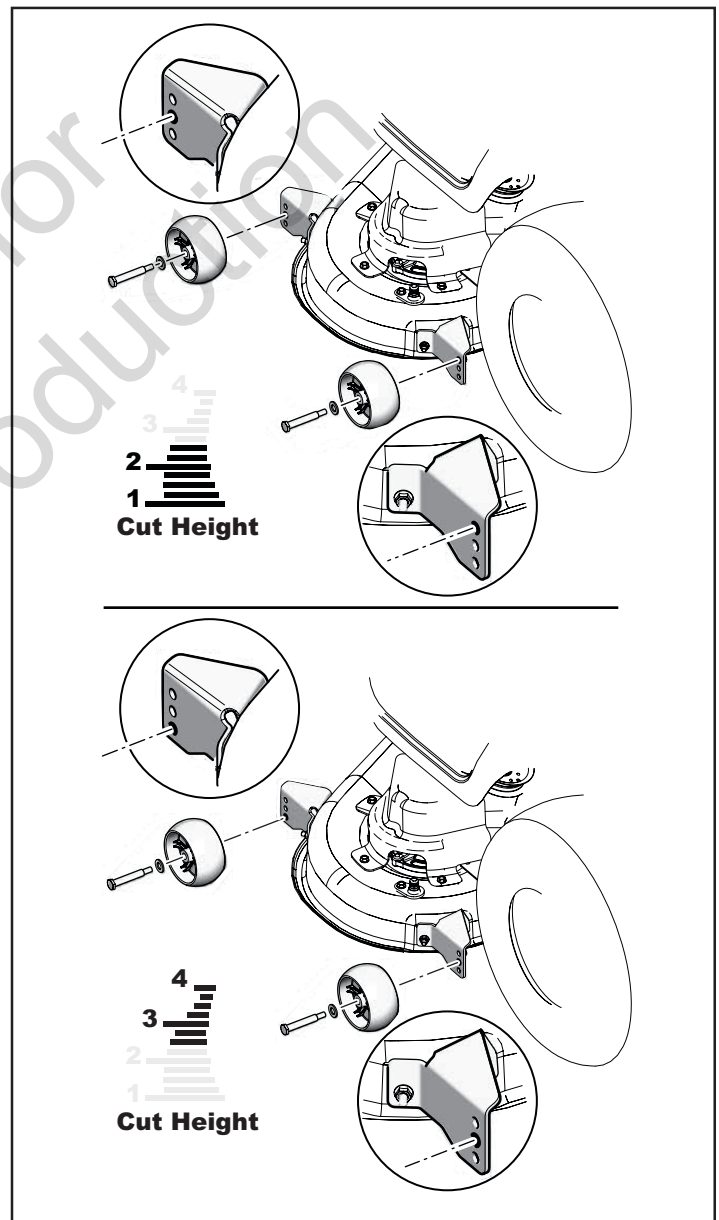

Figure 14
4. Adjust front and rear gauge wheels as needed (see Figure 14).